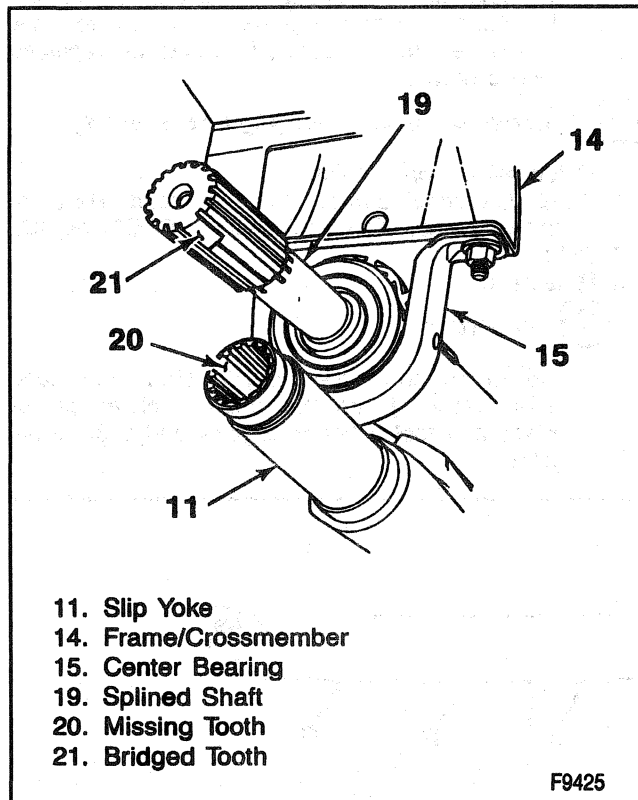

Figure 9—Splined Shaft Indexing
- Locate the bridged tooth (21) on the splined shaft (Figure 9).
- Mate the missing tooth in the yoke with the bridged tooth on the splined shaft (Figure 9).